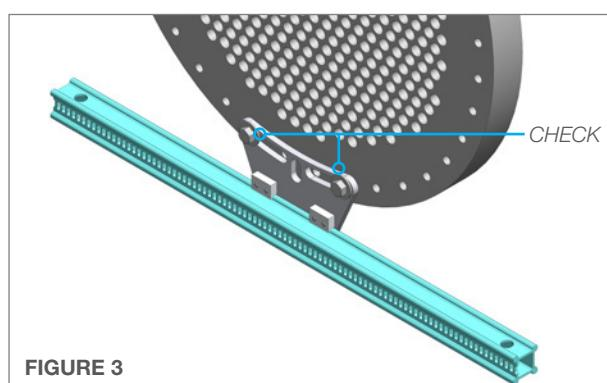

FIGURE 3
3. Loosen the **Rail Clamp Tensioner** on the bottom **Positioner Clamp** and insert the **Lower Rail** into the lower rail clamps. It is not critical that this rail is aligned as precisely as the top rail, but it should be close to parallel with the top rail for best performance. Tighten the **Rail Clamp Tensioner** securing the rail to the **Positioner Clamp**. Check Rail Clamp bolts to ensure they are secured to the tube bundle flange. (**Figure 3**)